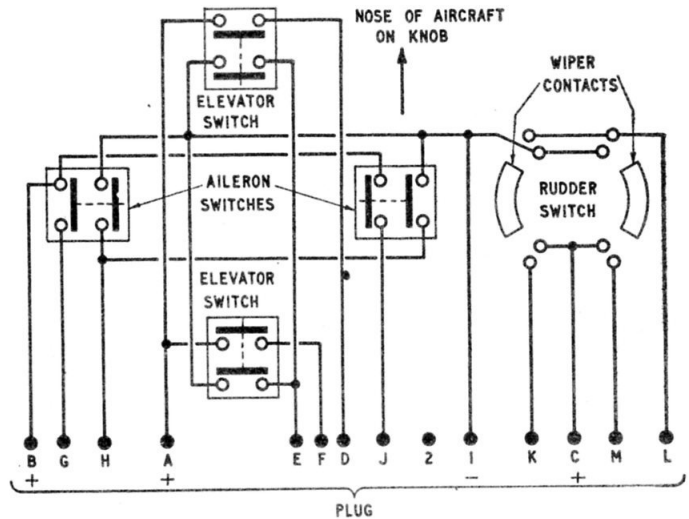

Fig. 3. Internal wiring diagram
6. The internal wiring of the switch is brought out to a waterproof, 14-pole plug, Type C (Stores Ref. 5X/6091), on the end of the switch. A wiring diagram (fig. 3) illustrates the connections to the micro switches, rotary switch and plug.